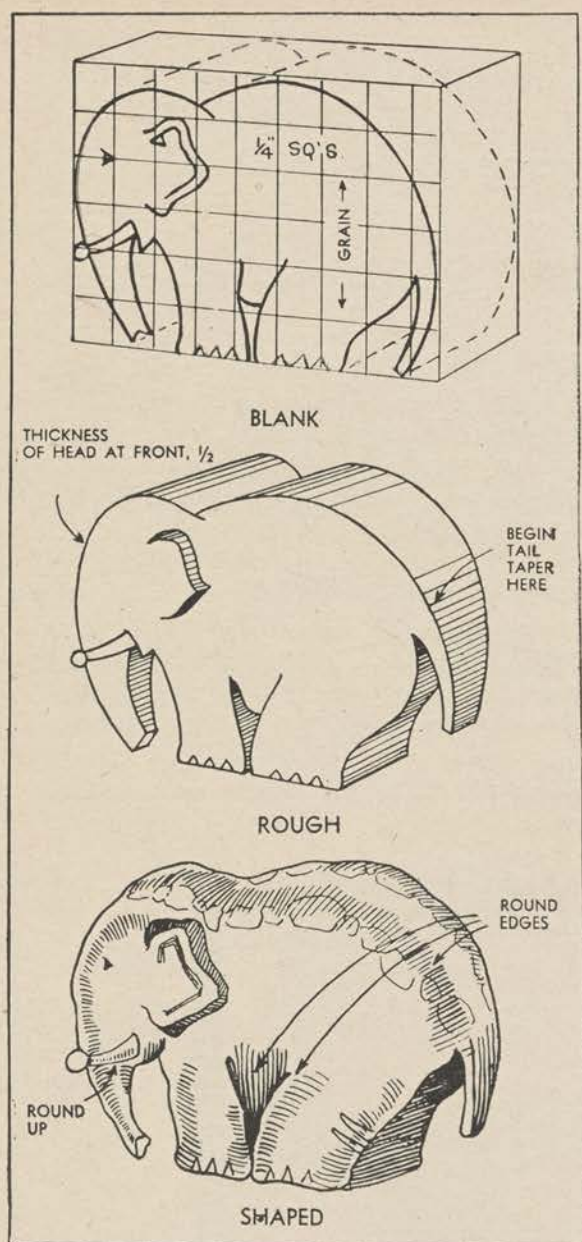

Figure 68.
a. Carving human or animal figures in the round, that is, as three dimensional pieces, is not as difficult as it seems if you start with a fairly simple form such as the elephant illustrated (fig. 68). It is possible to whittle such a figure with a knife alone, but a chisel and a few carving tools will make the job easier.